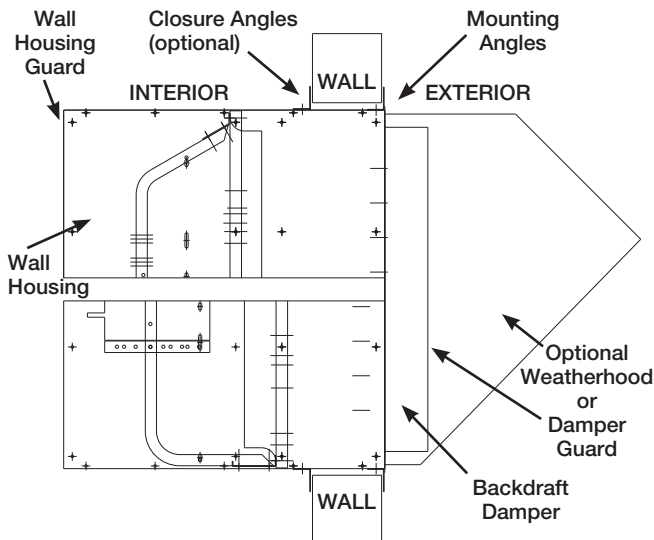

Figure 5 - Typical Installation Configuration (Exhaust/Supply)
1. Determine if a supply fan or exhaust fan is to be used in the wall housing (see Figure 5). Two rows of holes are provided for attaching the wall housing panels to the fan panel.
6. A versatile feature of the Greenheck wall housing is a mounting flange which may be used in either a standard arrangement (Figure 5) or moved anywhere along the housing. This permits the distance the wall housing protrudes outside or inside the wall to be varied.